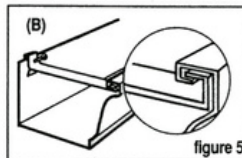

figure 5
Nail gutter to fascia with top edge lined up against guide string. (A) SPIKE AND FERRULE (10) installation: With the ferrule spanning the inner gutter, drive the spike through the front gutter lip, the ferrule, the back edge of the gutter and into the fascia board (figure 4). Attach Spike and Ferrule on every second rafter end or every 24" for proper support. (B) HIDDEN HANGER (9) installation: Space hangers 18" apart and at every joint, for maximum holding strength. Before nailing each hanger in place, hook it under the front lip of the gutter (figure 5). Use screws or twist-type nails to fasten back of hanger to fascia at rafter points.